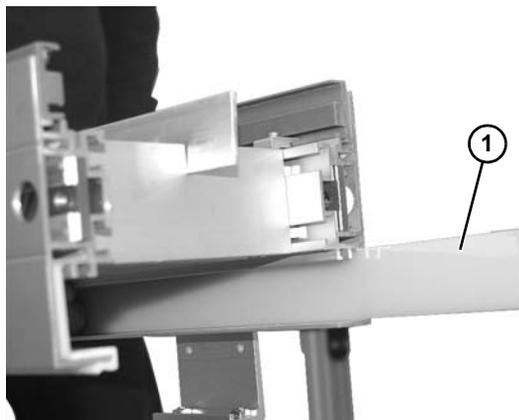

Figure 44
1. Slide lower vertical wear strips (Figure 44, item 1) from frame assembly.